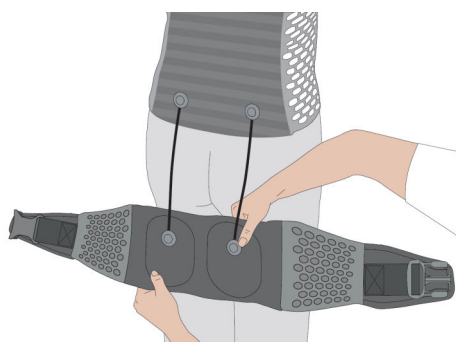

Fig. 49: Connecting the i-body® belt
- 21.** Connect both electrodes of the i-body® belt to the i-body® (Fig. 49) to the i-body® cable.